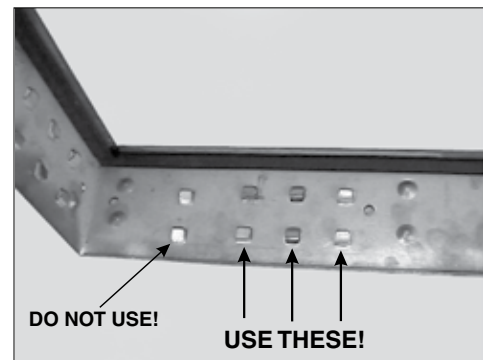

Figure 43 – Correct Use of Knockouts
- The latches needed for this application are four (4) clips as indicated in the table on page 32.
- The latches should only be installed, two (2) per side of the frame. There should be no latches used on the top or bottom. This is done to match the holes in the filter frame, used to secure the latch to the filter. See Figure 43 for the sets of knockouts that should be used for the latches.